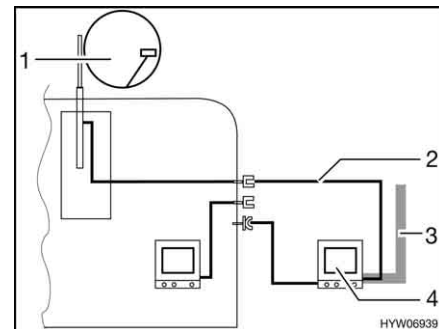

Fig. 184 TV in the awning
- TV inside the awning (Fig. 184,4): Connection to roof antenna (Fig. 184,1) with connection cable (Fig. 184,2)
- TV inside the awning (Fig. 184,4): Connection to external antenna (Fig. 184,3)